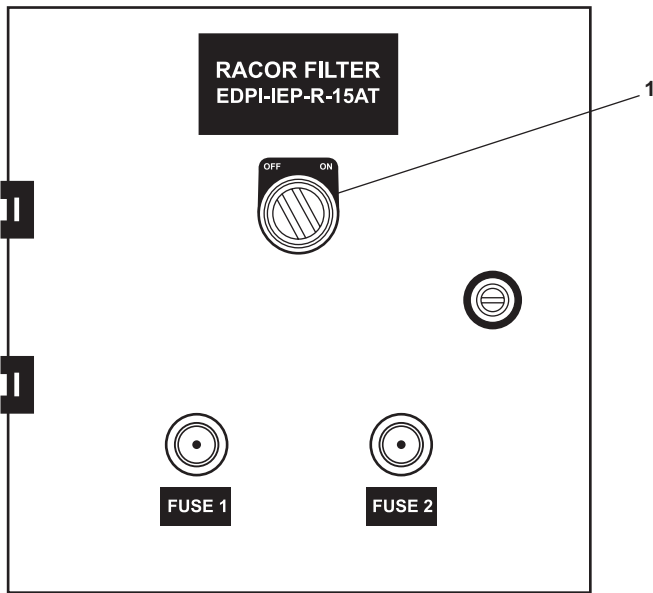

Figure 9. Fuel Filter/Water Separator Filter Control Panel
- (1) At the fuel filter/water separator control panel, set the OFF/ON (figure 9, item 1) switch to ON.
- b. At the fuel filter/water separator control panel, place the OFF/ON (figure 9, item 1) switch to OFF.